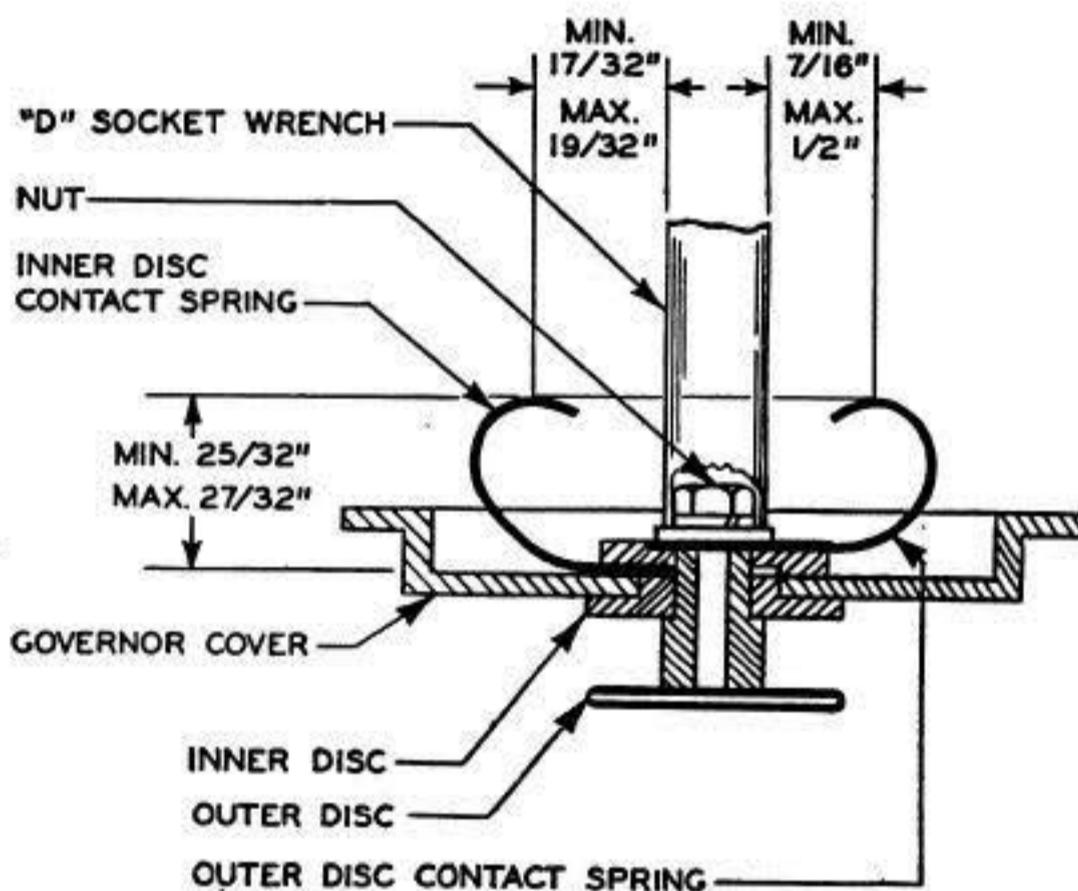

Fig. 9
4.07 **Inner-Disc Contact-Spring:** With the TP89955 D socket wrench placed over the nut which holds the contact springs in place, the distance from the outer surface of the wrench to a point where the TP95960 tape gauge, used as a ruler, touches the curved surface of the inner-disc contact-spring should be min $17/32"$, max $19/32"$. **Fig. 9**